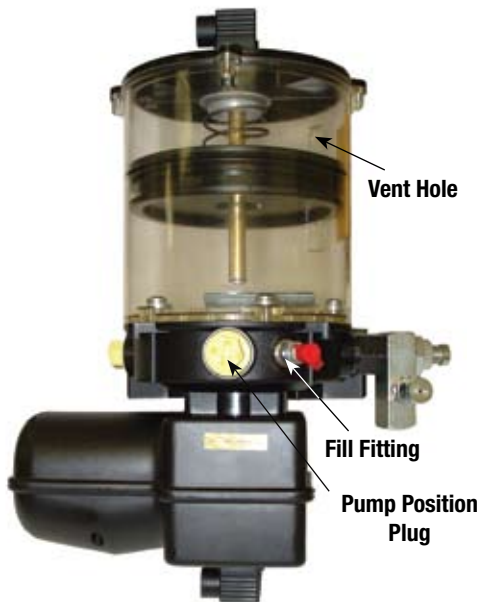

Figure 2-3
- 2.3.2 Filling is accomplished by connecting a suitable transfer pump to the fill fitting in the front of the pump housing (See **Figure 2-3**). Before connecting the transfer pump, make sure that both the lube fitting and the coupler are clean and that the hose and transfer pump are full of clean grease that is free of air.